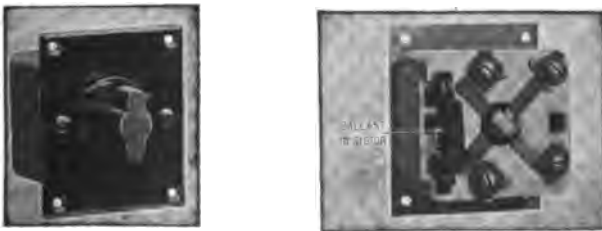

Fig. 446. Front and Back Views of Westinghouse Ignition Switch
the negative side of the battery to the ignition terminal, Fig. 446. This switch is a reversing type, i.e., it changes the direction in which the current passes through the interrupter contacts each time it is operated. Particular attention is directed to the rear view of the switch. As received, this switch does not operate to reverse the current direction. If it be desired to utilize this feature, remove the
**Ballast Resistor.** This is a resistance unit which will be noted mounted on the rear face of the switch, Fig. 446. It is connected in series with the primary ignition circuit and is an important part of the ignition system, its function being to protect both the ignition system and the battery. In case this resistance unit should become broken or inoperative from any cause, a standard 5-ampere fuse may be used in an emergency, *but a fuse of more than 5-ampere capacity must never be employed in any case.* Unless absolutely necessary to do so in order to run the car, the ignition system should never be operated without the ballast resistor, as serious injury is likely to result. A very fine piece of wire, such as a single strand of lamp cord, should be used for bridging the gap.